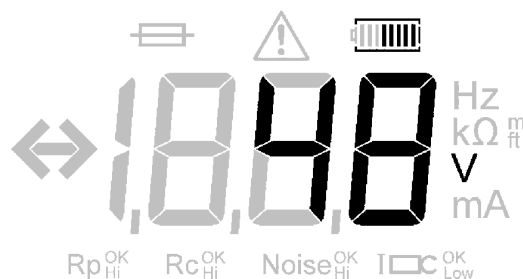

Figure 3: Ground noise voltage reading
3. The ground noise voltage reading will be displayed on the LCD display as shown in Figure 3.